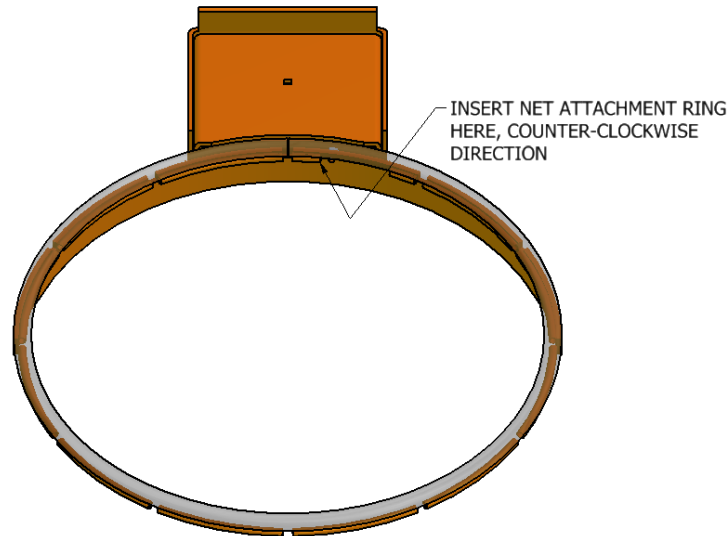

Figure 5-4: Insert Net Ring in counter-clockwise direction.
1. Insert the net attachment ring into the hideaway net tubes as shown in Figure 5-4.